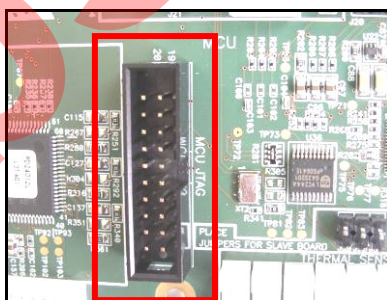

Figure 28: MCU (PD23000) JTAG Connector
13. MCU (PD23000) JTAG (see Figure 28)